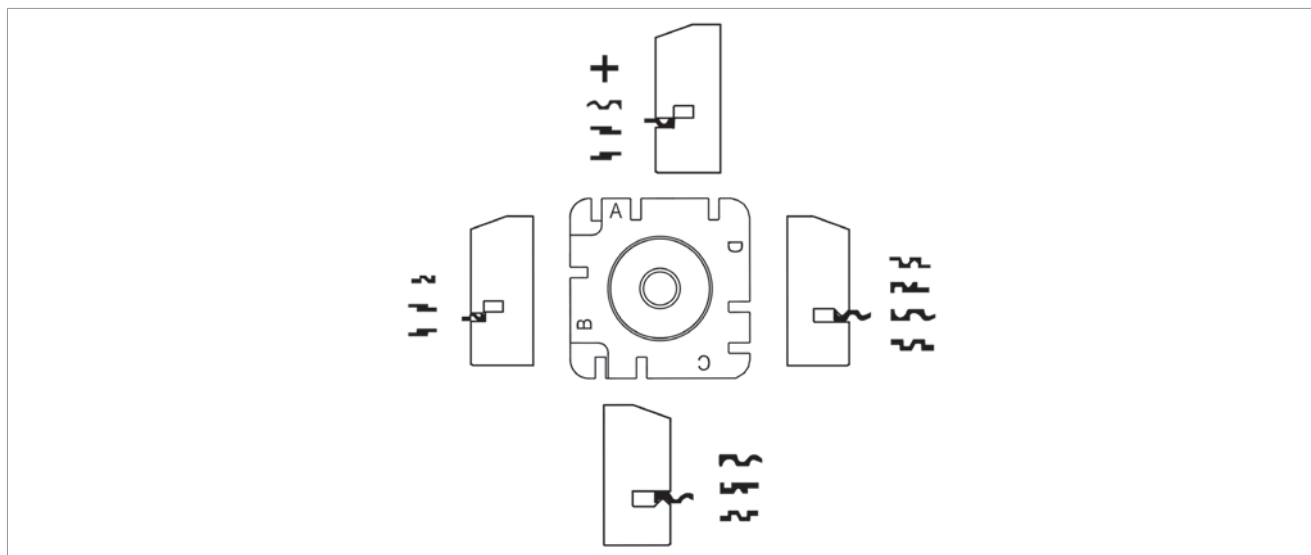

Fig. 21
- **Side A** of the clamp: for keys to be fitted on their backs, keys with double cuts without groove and cruciform keys (Fig. 21);
- **Side B** of the clamp: for keys placed on their backs and having cuts with a depth of less than 3,9 mm (Fig. 21);
- **Side C and D** of the clamp: for keys to be cut on both sides and locked on the groove (Fig. 21).